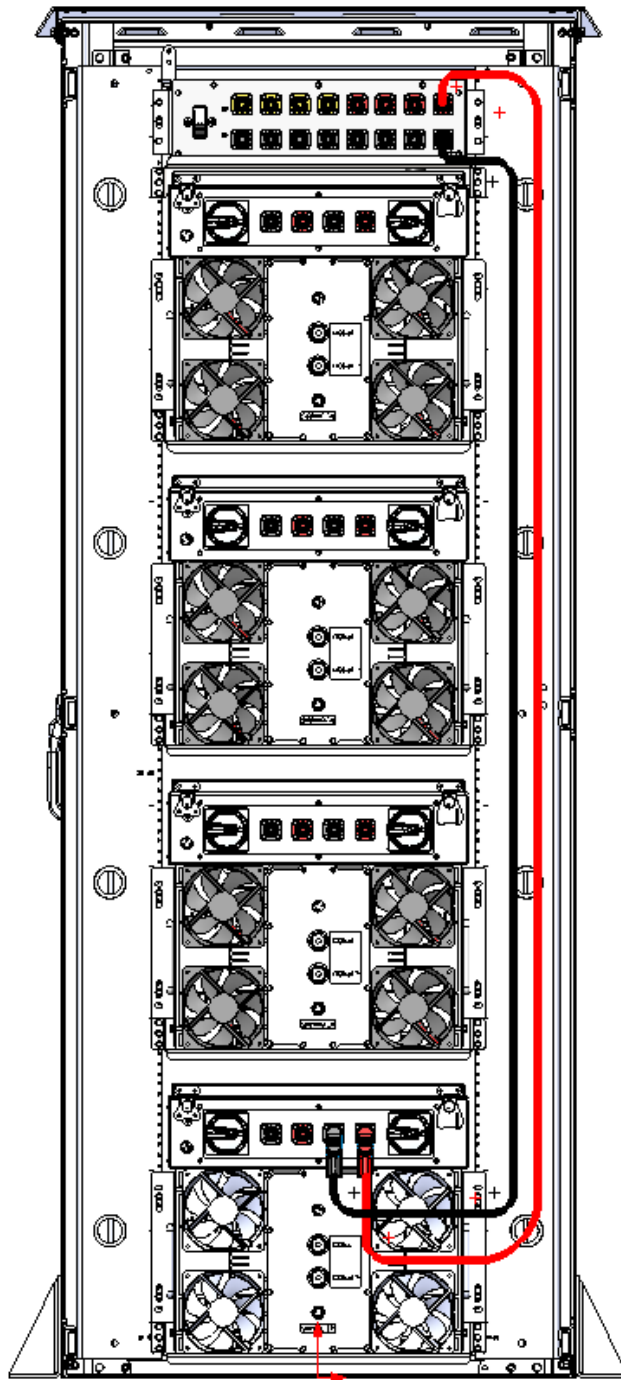

FIGURE 29: SURLOK CABLING ROUTED TO SECONDARY (OUTPUT) FEED #4
- (2) 8-foot SurLok Cables for SPOT #4 shown in Figure 29.